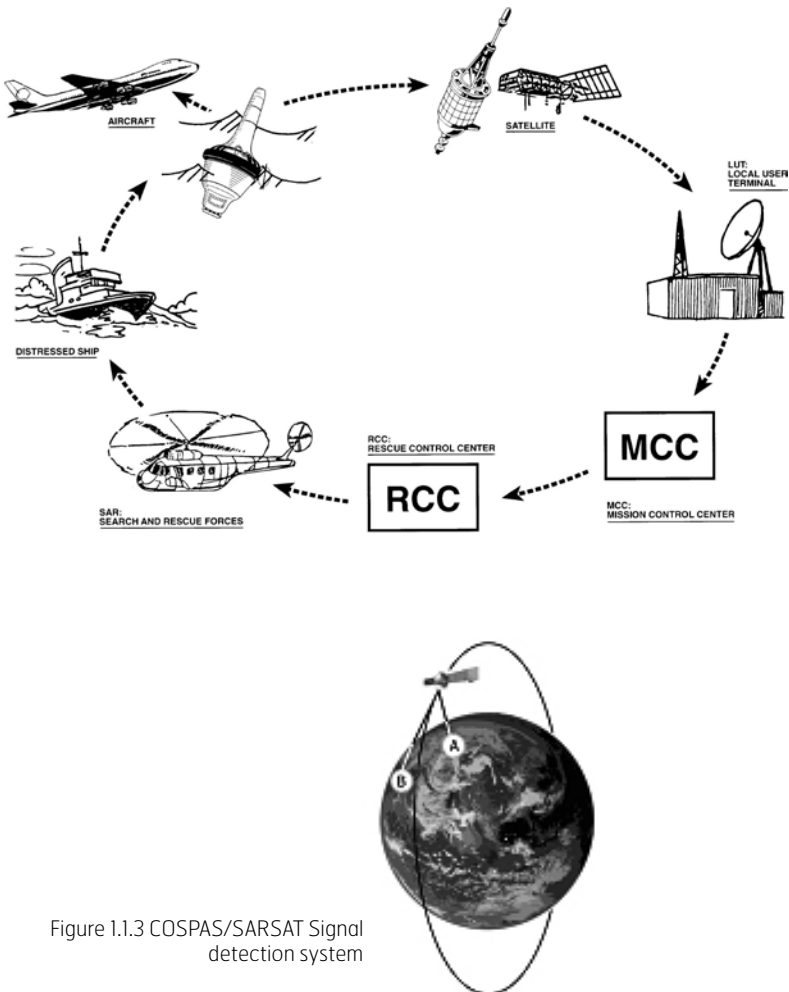

Figure 1.1.3 COSPAS/SARSAT Signal detection system
satellite at the TCA. At the LUT, actually two positions are calculated. One is the actual position (A) and the other is the mirror image (B) position [FIG.1.1.3]. A second satellite pass confirms the correct location (A). With the 406MHz system the real solution can be determined on the first pass with a reliability of nearly 90% and down to an accuracy of less than 5 km (3.1 miles).